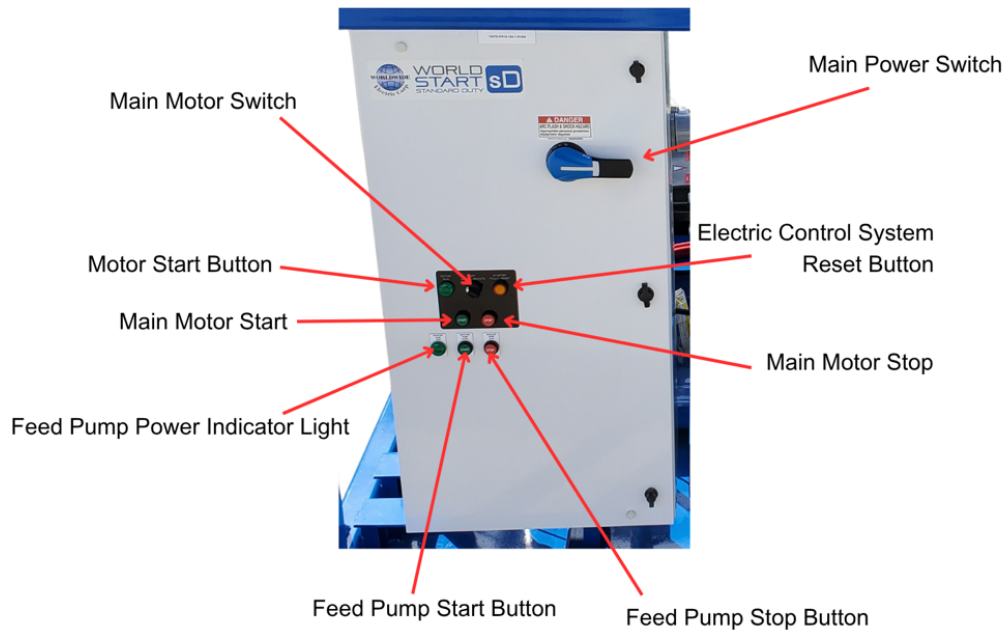

Figure 2.2 – CaviBlaster 2570-E Control Panel
10. Connect the bypass hose (See **Figure 2.2**).
11. Connect the pressure hose (See **Figure 2.2**).
Attention to priming the system is necessary. The feed water suction hose inlet connection is located on the water connection panel (See **Figure 2.2**). The (clear) suction hose should be straight and at a slight downward angle from the inlet connection on the water connection panel, with no “humps” in the hose so that trapping of air pockets and creating an air lock is minimized. During the priming cycle the suction hose should always remain below the height of the inlet connection unless connecting with a positive pressure water source.
2. Ensure the E-Stop button is pushed "IN" so that the power supply has been disconnected. (See **Figure 2.2**).
3. Connect the cam-lock socket on the 1-1/2" clear PVC feed hose to the water inlet connection on the control panel (See **Figure 2.2**). Place the other end of the hose in the water supply.
2. Ensure the E-Stop button is pushed "IN" so that the power supply has been disconnected (See **Figure 2.2**).
4. Connect a 1-1/2" cam-lock socket on the water supply hose to the water inlet connection on the control panel (See **Figure 2.2**). Confirm system is primed.
1. Locate the water supply tank so that the outlet of the supply tank is higher than the water inlet on the control panel (See **Figures 2.2 and 4.3**).
3. Ensure the E-Stop button is pushed "IN" so that the power supply has been disconnected (See **Figure 2.2**).